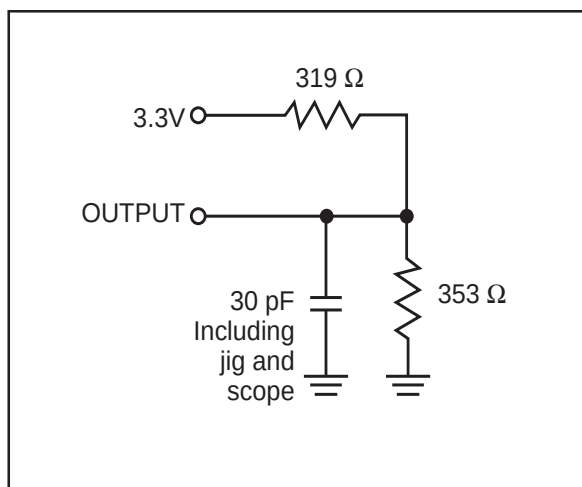

Figure 1.
1. Test conditions assume signal transition times of 3 ns or less, timing reference levels of 1.5V, input pulse levels of 0V to 3.0V and output loading specified in Figure 1.
| Output Load                                 | See Figures 1 and 2 |